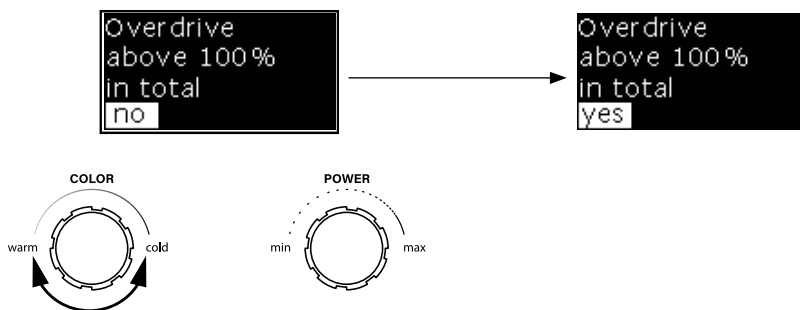

Fig. 34
2. Rotation of the left encoder toggles between the menu options. Pressing the encoder confirms the selected parameter (Fig.34).